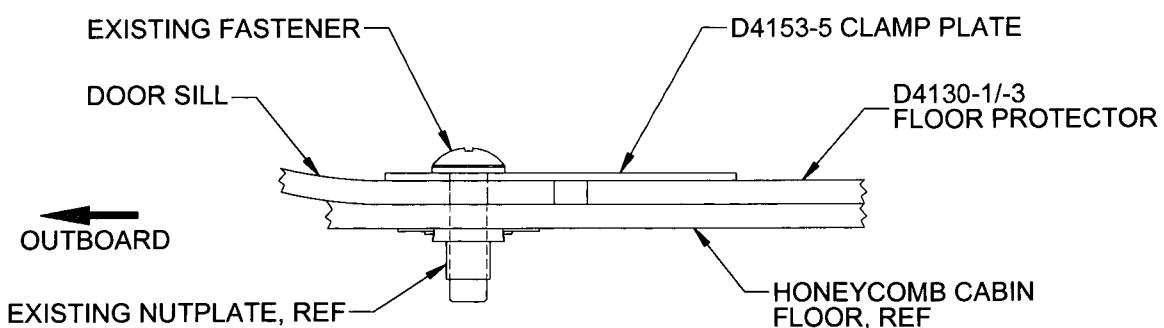

FIGURE 3 - D4153-5 CLAMP PLATE INSTALLATION (OPTION 3)
- 2.3.1 Remains the same as Detail T, Figure 7d in IIN-D139-799. Figure 3 of this Service Instruction is intended to clarify the Detail.